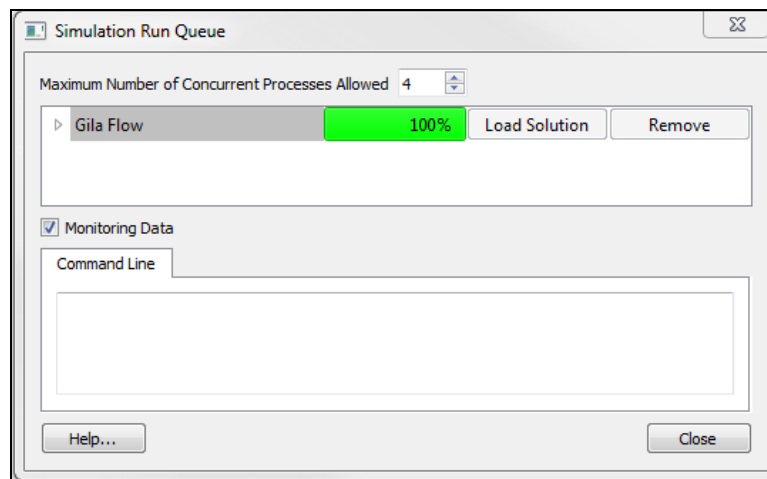

Figure 5 SMS Model Wrapper
2. Click **OK** if a warning is displayed stating that the “BC” coverage will be renumbered before exporting. This brings up the *Simulation Run Queue* dialog (Figure 5).